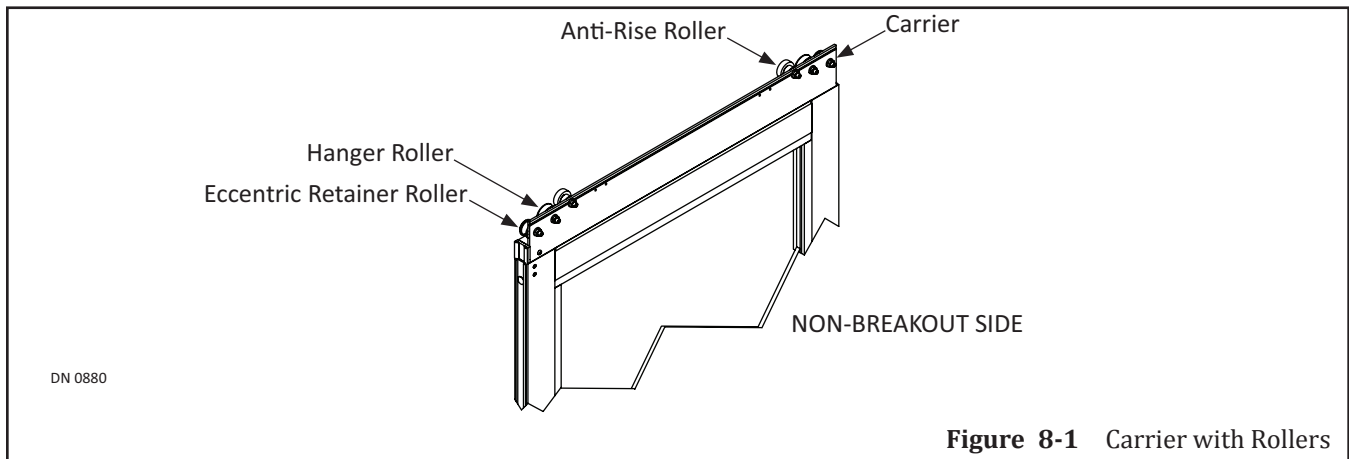

Figure 8-1 Carrier with Rollers
2. Go to the top of the Slide door to locate the Carrier. Please see Figure 8-1.